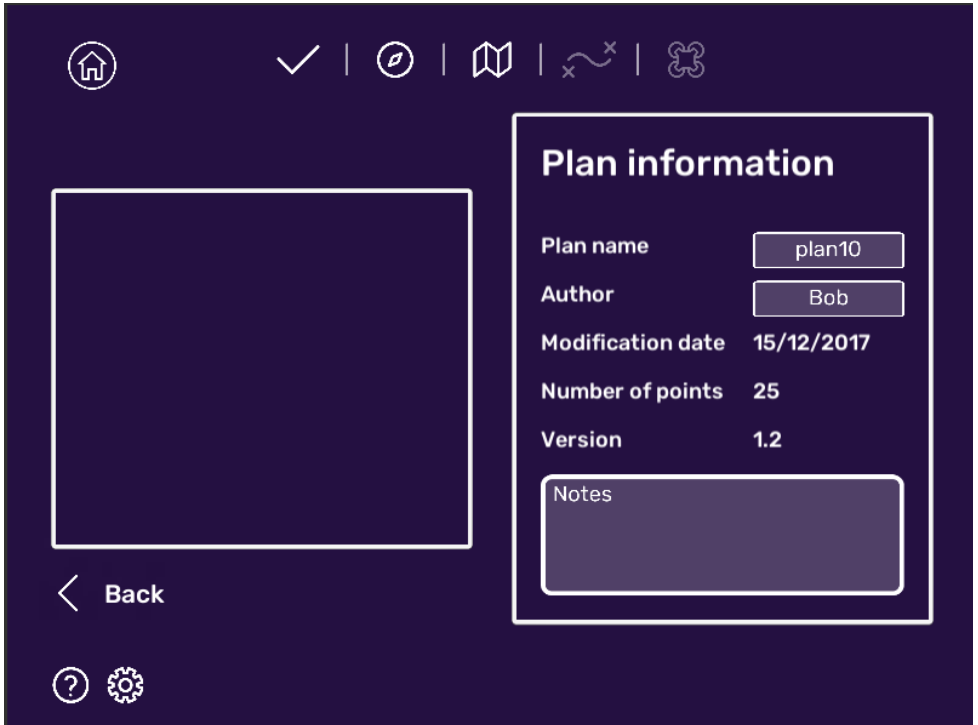

Figure 22. Plan information window
1. **Info.** This shows the information associated with the plan (see Figure 22);